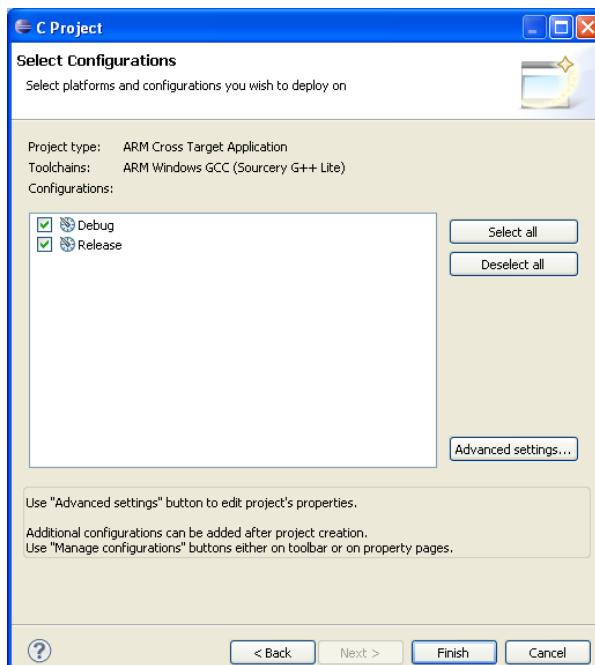

Figure 11.6 Configuration Window
- Make sure the selection are same as shown in Figure 11.6.